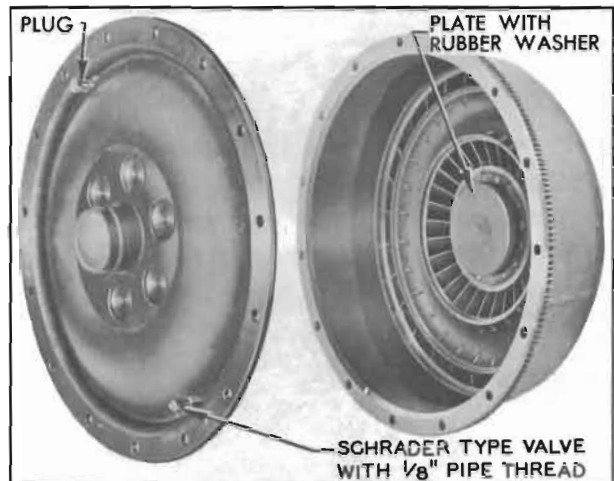

Figure 5-51—Plate and Plugs Installed in Pump and Cover
2. Install plate with washer over inside surface of pump hub (Figure 5-51), then install pump cover with seal and tighten all bolts to 25-30 ft. lbs. torque in sequence shown in Figure 5-108.
3. Install one drain plug, and install a Schrader type valve with $\frac{1}{8}$ " pipe thread in other drain hole. Tighten parts securely. See Figure 5-51.